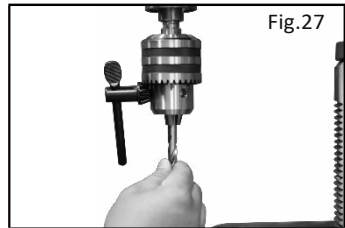

Fig.27
2. Insert the drill bit into the chuck (Fig. 27).